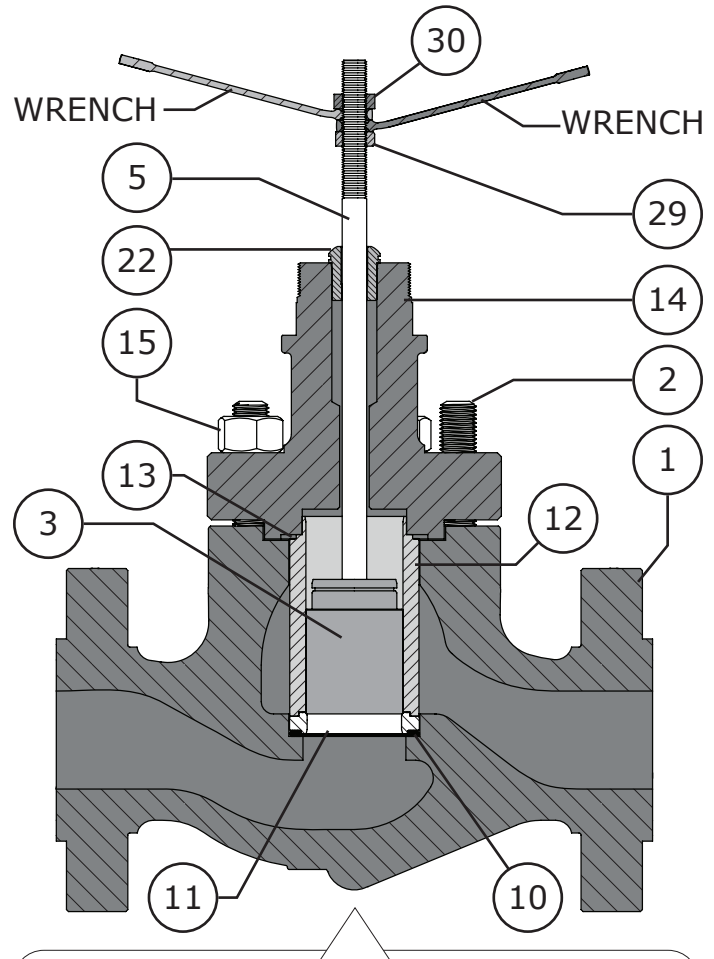

Figure 14 Lapping Procedure Setup (Steps 1 - 8)
- 8 Install the jam nut (Key 29) on to the valve stem (Key 5) and build a handle as shown in Figure 14 and 16 using the two wrenches and the hex nut (Key 30).